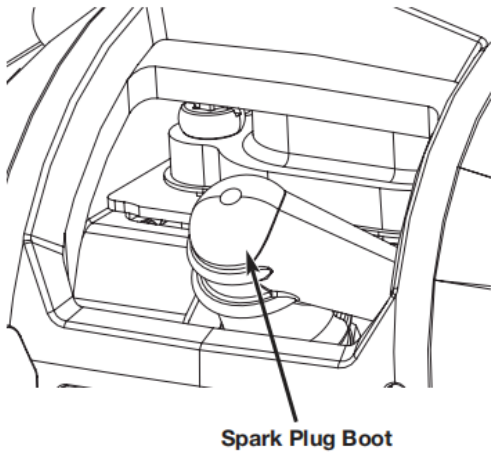

Fig. 14
- 2) Grasp the spark plug boot firmly and pull it from the spark plug (Fig. 14).